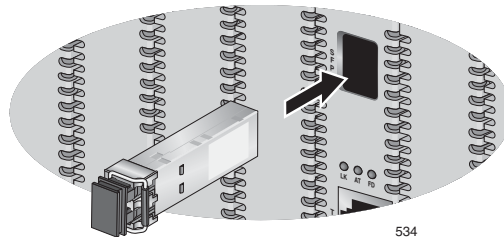

Figure 24. Installing an SFP Transceiver in a Line Card
2. Slide the SFP transceiver into the slot in the line card, as shown in Figure 24.